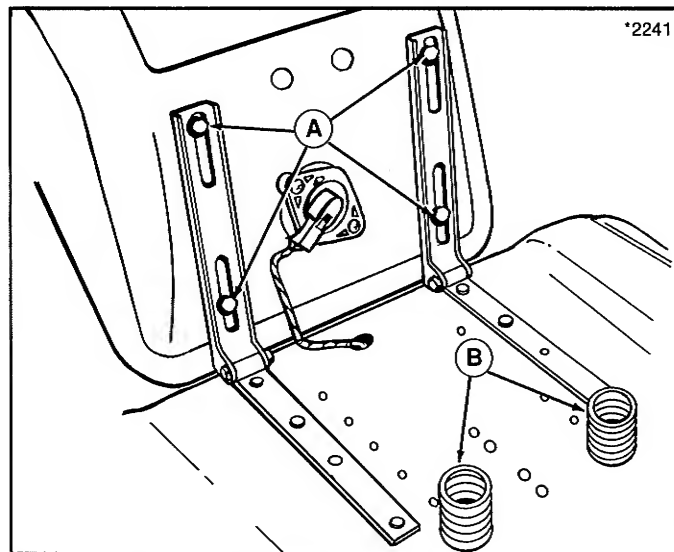

Figure 23. Seat Adjustment
1. Lift up the seat as shown in figure 23.
3. The springs (B) can be moved to different holes in the deck for maximum riding comfort. A lighter person will want to move the springs more forward. To change position, lift the springs and move to desired holes.